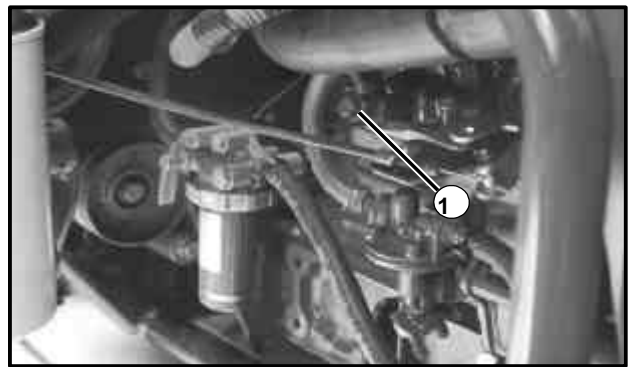

Figure 26
4. Open the air vent on top of the injection pump, open air vent only when engine is NOT running (See Fig. 26).